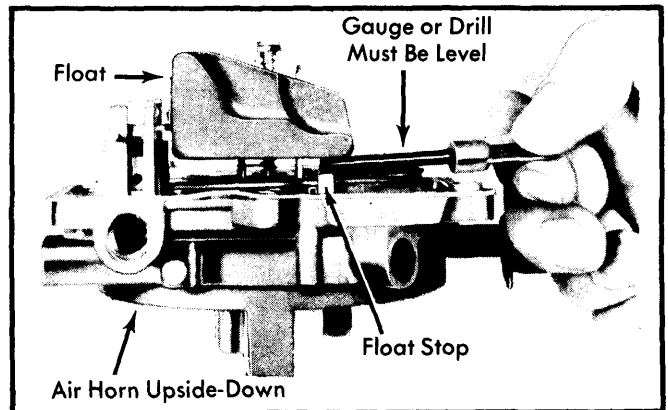

Fig. 1 Adjusting Float Level
1) With the air horn removed, turn upside down so that only the weight of the float is pressing fuel inlet needle against needle seat. See Fig. 1.